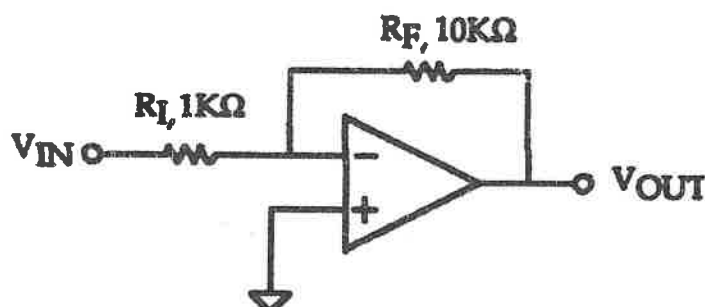

Fig 1. Inverted Op-amp Circuit
- d) In the given circuit diagram Fig. 1 below find the nominal value of the gain and also worst-case minimum and worst-case maximum gain. Tolerance of the resistors are  $\pm 5\%$ .